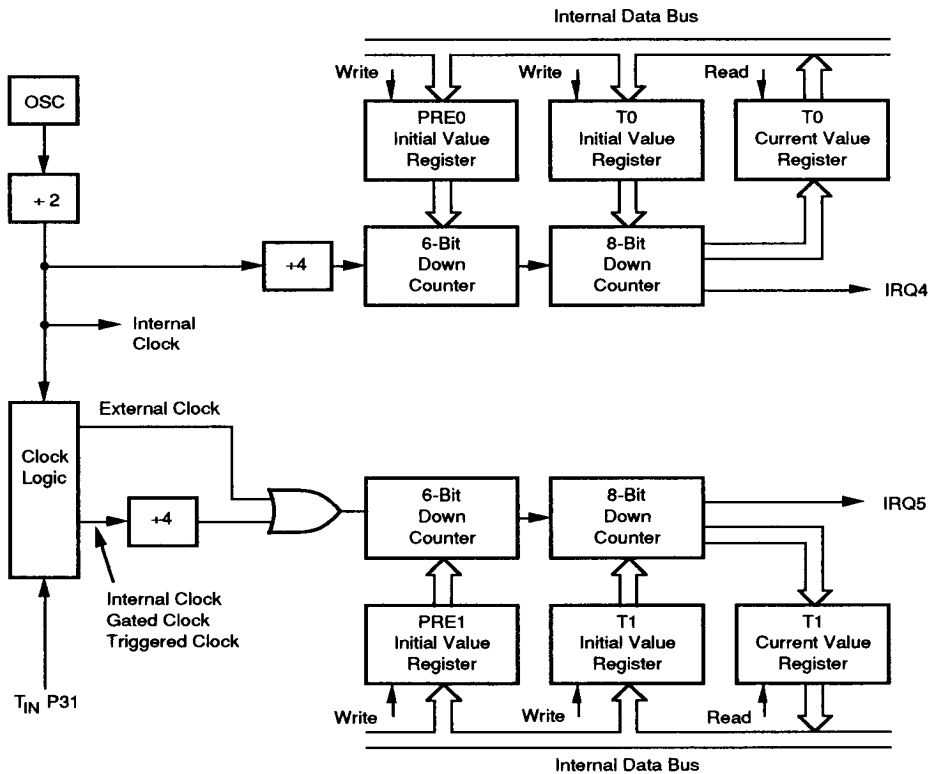

Figure 10. Counter/Timers Block Diagram
**Counter/Timer.** There are two 8-bit programmable counter/timers (T0 and T1), each driven by its own 6-bit programmable prescaler. The T1 prescaler can be driven by internal or external clock sources, however the T0 can be driven by the internal clock source only (Figure 10).